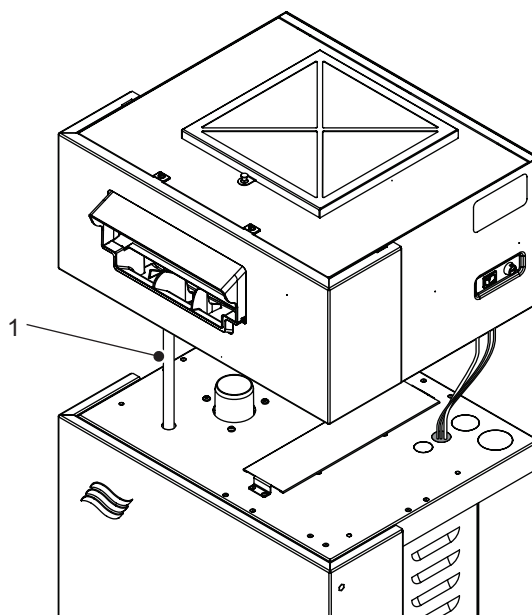

Figure 21: Condensate Hose Connection on Blower Pack
- e. Form a trap with a diameter of 150 mm in the 8/12 mm diameter condensate line, and prime it with water. Then route the other end of the condensate hose through the knockout hole in the top of the humidifier – refer to Figure 21 on page 37. Connect the hose to the blower pack condensate port and secure it with a spring clamp (supplied). Make sure that the hose is not kinked.